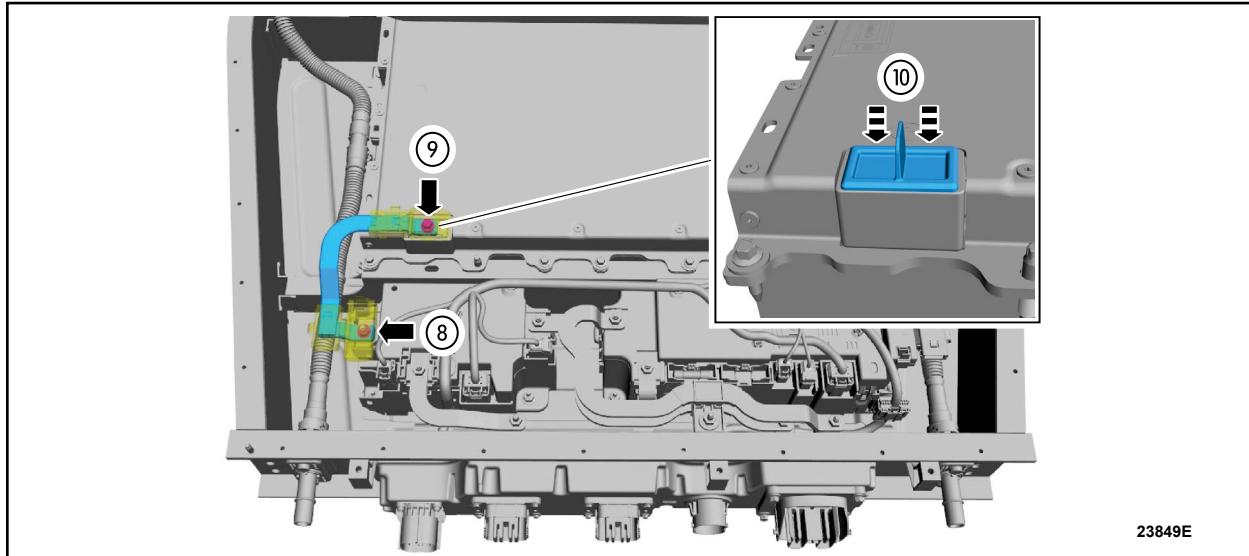

FIGURE 5
8. Open the terminal covers and remove the bolts. See Figure 5.
9. Remove the bus bar. See Figure 5.
10. Install the battery module terminal cover. See Figure 5.